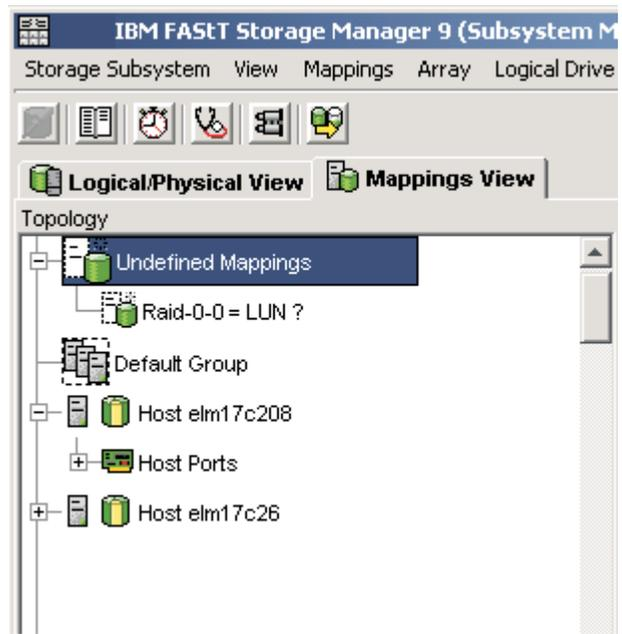

Figure 9. Undefined FlashCopy disk
1. In the SMclient, open the Mappings view of the Subsystem Management window, as shown in Figure 9. The newly-created FlashCopy logical drive displays in the undefined mapping section.